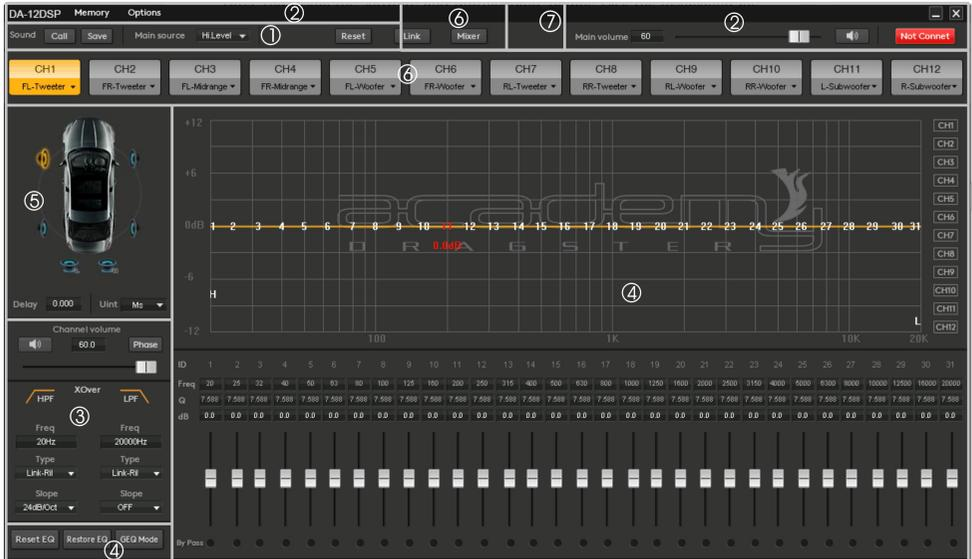
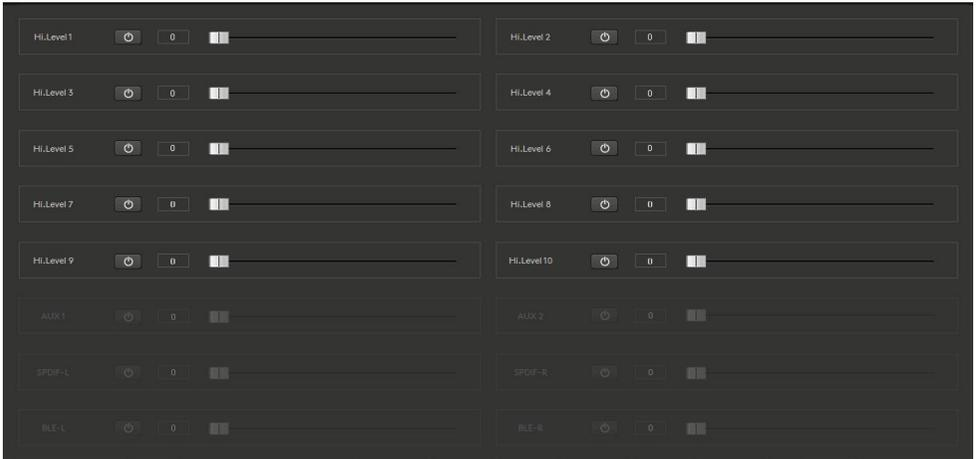

Figure 3.2.2
figure 3.3.14
- 1 . as shown in figure 3.2.2, "1", input signal selection: high level, Bluetooth, S/PDIF, AUX and Player.
- 2 . as shown in figure 3.2.2 "2", shows the main menu and connection status.
- 3 . as shown in figure 3.2.2 "3", the high-pass and low-pass Settings of the divider.
- 4 . as shown in figure 3.2.2, "4", area is output channel EQ setting.
- 5 . as shown in figure 3.2.2, "5", shows the setting of delay space.
- 6 . as shown in figure 3.2.2,"6", output channel configuration and common parameter adjustment area.
- 7 . as shown in figure 3.2.2, "7", shows the setting of Mixer space.
In the online mode, in Figure 3.2.2 "1", click the appropriate input source, you can switch the audio input signal.
"6" area, click on the corresponding channel number in Figure 3.2.2 (CH1, CH2 ..... CH12), you can switch to the corresponding channel to adjust relevant parameters when changing the channel editing, where there are only 3.2. 2 "4" zone (crossover and equalization parameters) will vary depending on the channel and change the parameter values.
**Mixer settings:** click "mixer" in the "7" area in Figure 3.2.2, then you can switch to (Figure 3.3.14) the relevant parameter settings for the corresponding adjustment